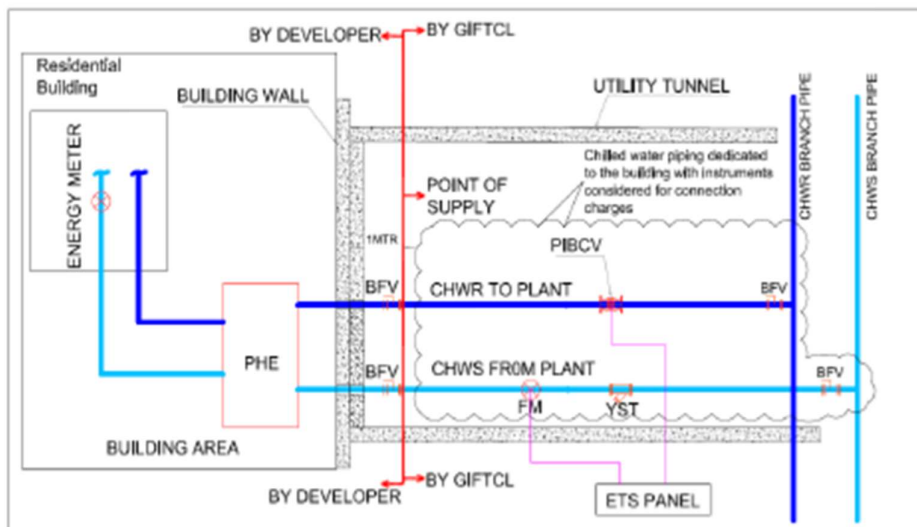

Figure 1 - Battery limit in Residential Scheme for Residential connection
- vi. Cost of total length of dedicated Chilled water insulated pipe at actual (both supply & return pipe included) of adequate size required to provide DCS service, measured from Point of Supply up to the branch pipe tapping connecting to the main chilled water header. (Refer figure 1 & 3)